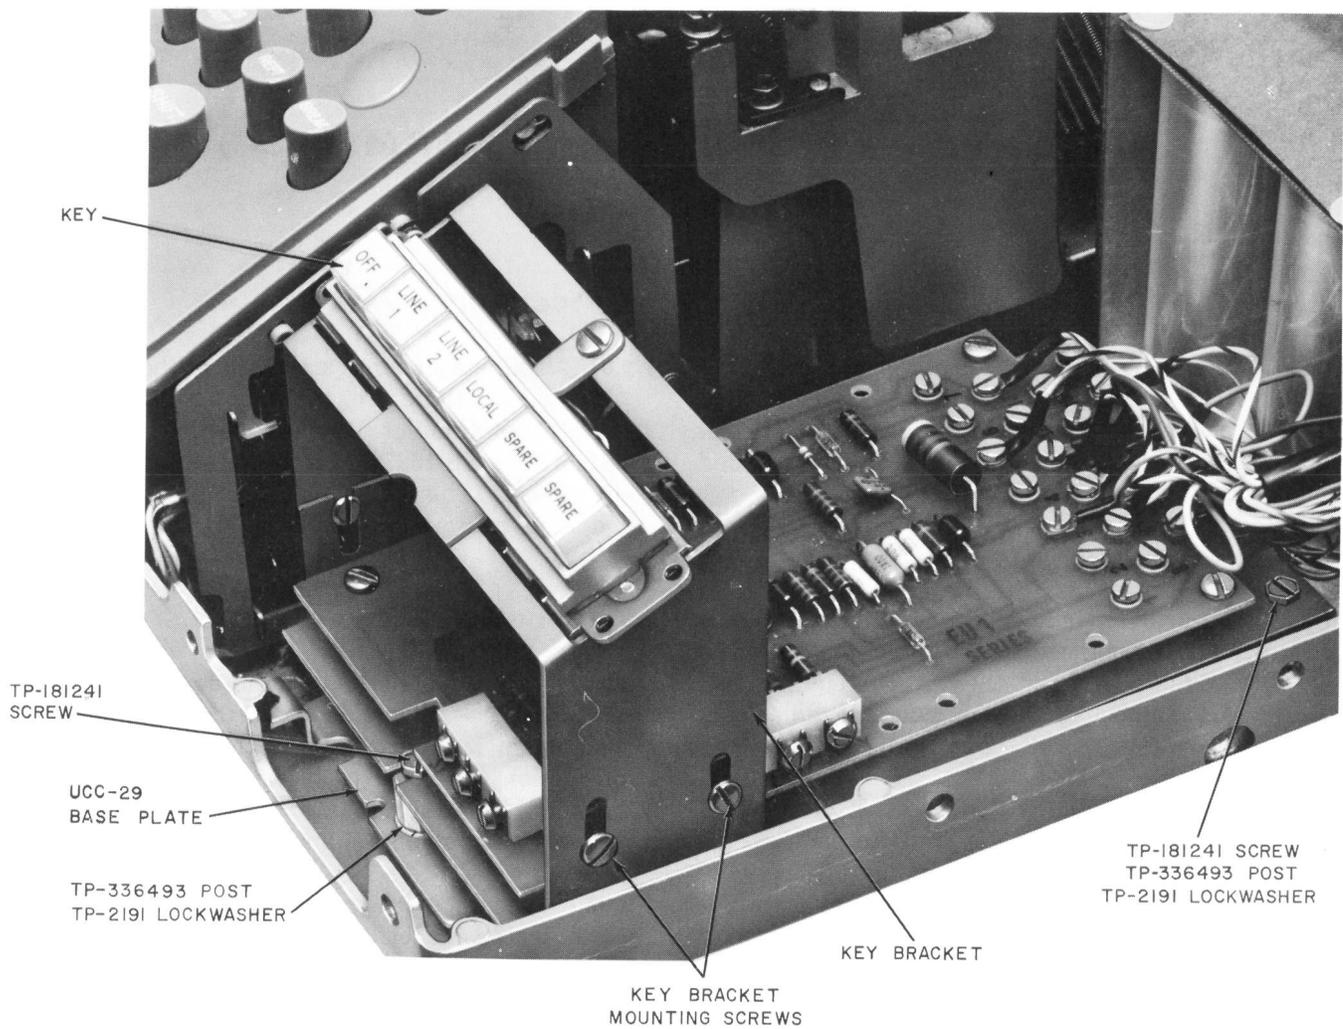

Fig. 1—Data Set 109C-L1 Installed in Model No. 33 Teletypewriter
3.02 Data Set 109C-type is designed to be mounted in the model 33 or 35 TTY in front of the UCC 29 call control unit (see Fig. 1). In order to check the option connections, it is necessary to remove the cover of the TTY. For information on cover removal, refer to the section entitled Data Set 109C-Type, 10-Type Data Line Concentrator System (DLCS*), Maintenance (591-031-301).